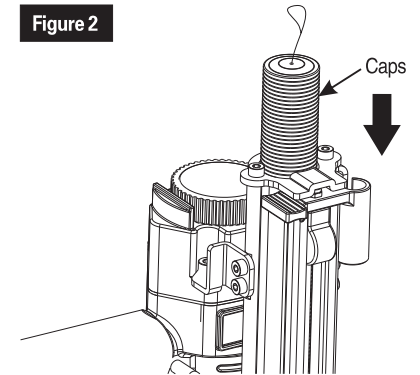

Figure 3
3. Turn the cap pusher to the right to get it released and go back until it is engaged on the top of the plastic caps. (See figure 3 & 4)